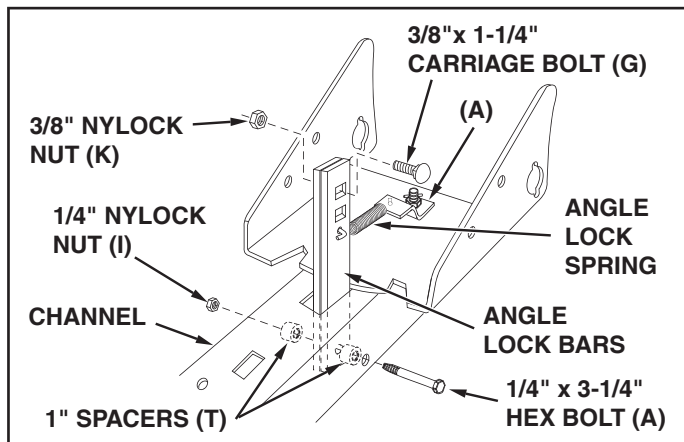

FIGURE 14 (Right Hand Side View)
STEP 14: (SEE FIGURE 14)
- Place the two angle lock bars together so that all holes are aligned. Assemble a 3/8" x 1-1/4" carriage bolt (G) and a 3/8" nylock nut (K) in the top hole. Be sure to insert bolt from side indicated. **Finger tighten only.**
- Insert the round hook end of the angle lock spring up through the hole in bracket (A).
- Insert the angle lock bars down through the slot in the channel. Under the channel, place a 1" long spacer (T) on each side of the angle lock bars and insert a 1/4" x 3-1/4" bolt (A) through the channel, the angle lock bars and the spacers. Secure the bolt with a 1/4" nylock nut (I). **Tighten** so that lock bars can pivot freely.